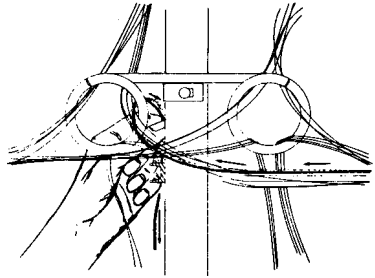
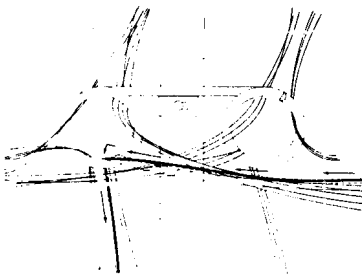

FIGURE 5. Left Hand Placed Under and Back of a Ring to Receive a Right-to-Left Jumper (HLIDF).
FIGURE 6. Tied-Down Jumper Correctly Placed Against the Bottom Inside Edge of a Ring.
- If the jumper is to go to a connecting block three or more levels below its horizontal level, use the right hand to bring it around inside and to the bottom of the ring. Place the left hand under and behind the ring to receive the jumper (see Figure 5) and place it in a downward position (see Figure 6). This type of jumper may be run in front of existing jumpers on the vertical side. Run as directly as possible into the proper connecting block hole.